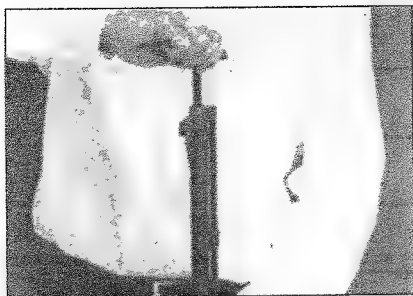

Figure 6
12. Use longer end of ball starter to move projectile about six inches down the bore. (See Figure 6).